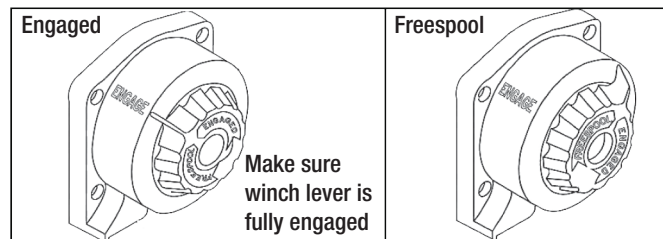

Fig. 3-1
1. Before testing the winch, turn the clutch handle to the "Freespool" position. Always wear heavy gloves when handling steel cable/synthetic rope. Using the winch strap, pull about two feet of steel cable/synthetic rope off the drum, and place the clutch handle in the "Engaged" position (Fig. 3-1).